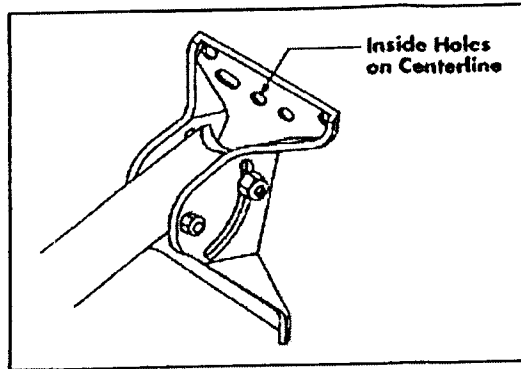

FIGURE 2A
- When attaching to masonry structures use the four corner outside holes in base bracket and four appropriate $\frac{3}{4}$ " double-expansion anchors or toggle bolts with flat washers (not included). See Figure 2A.